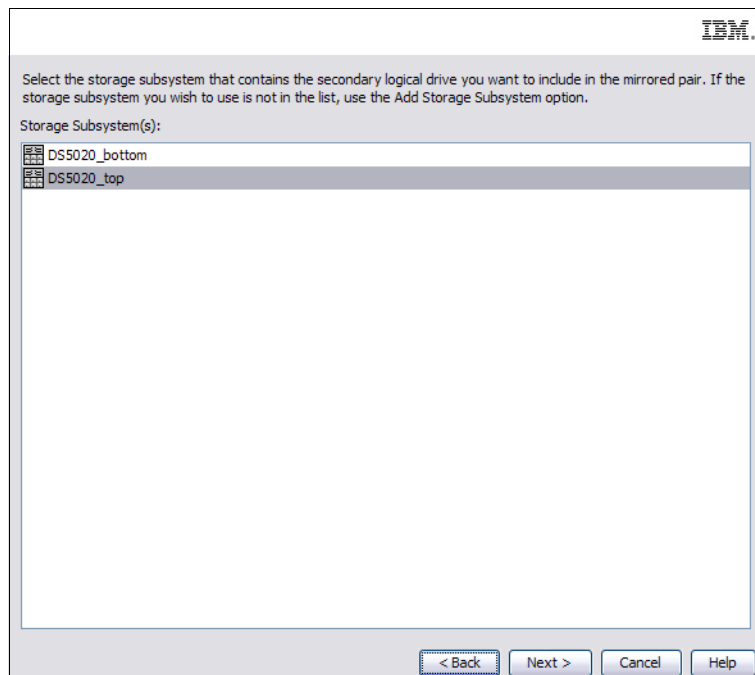

Figure 5-17 Select Storage Subsystem (Create Remote Mirror)
2. Read the information displayed in the window and click **Next**. The Select Storage Subsystem window opens, as shown in Figure 5-17.